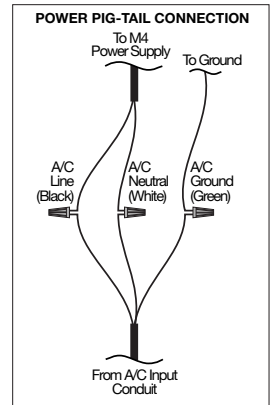

FIGURE 3a
4. Twist the black wire of the M4 controller with the incoming "120 VAC" wire. Install a wire nut or crimp using an approved insulated method (see FIGURE 3a).
5. Twist the white wire of the M4 controller with the incoming “neutral” (not the ground) wire. Secure as in “step (4)” (see **FIGURE 3a**).
6. Repeat for the green ground wire and the incoming ground wire (see **FIGURE 3a**).